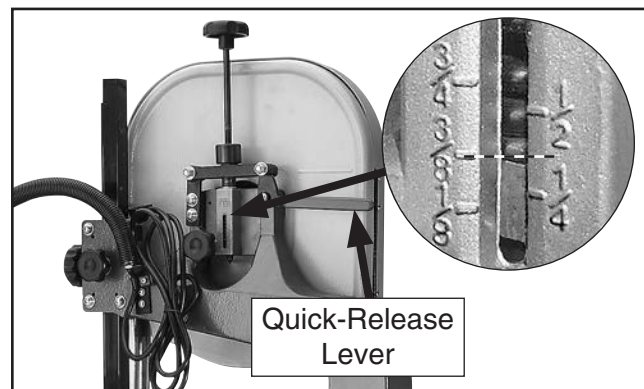

Figure 19. Tension applied for a $\frac{3}{8}$ " blade.
3. Pull blade tension quick-release lever down (as viewed from rear of machine) to apply tension to blade (see **Figure 19**).
4. Use tension knob on top of the bandsaw to bring upper edge of indicator block to appropriate blade tension scale mark for blade width (see **Figure 19**).